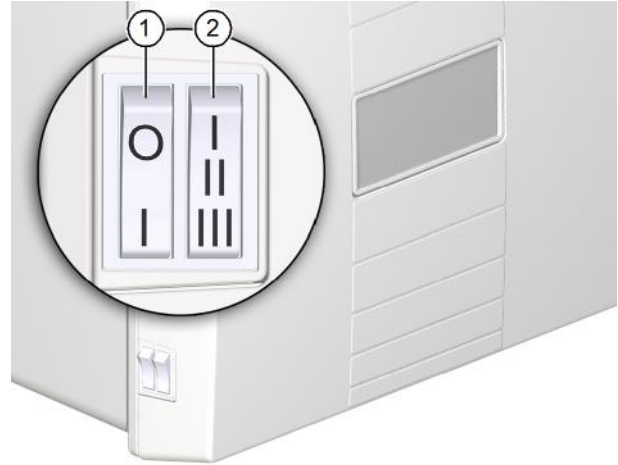

Fig. 11: Controls on the ventilation unit
The power level selected on the stepping switch (item 2 in Fig. 11) is also signalled by the associated LED on the InControl pushbutton sensor.
- ▶ Switch the ventilation unit on at the mains switch (item 1 in Fig. 11 on page 17).